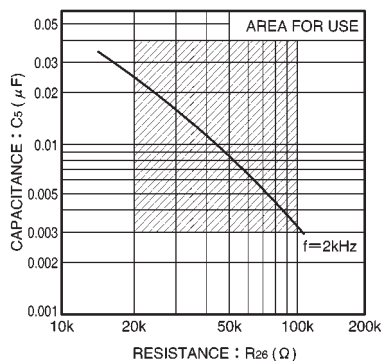

Fig. 7 Value of external components for oscillator ($V_{CC} = 5.0V$)
(3) The external resistor R_{26} connected to the oscillator (pin 28) should be in the range of $20k\Omega$ and $100k\Omega$. If it is outside this range, oscillation may stop due to the influence of temperature (see Fig. 7).